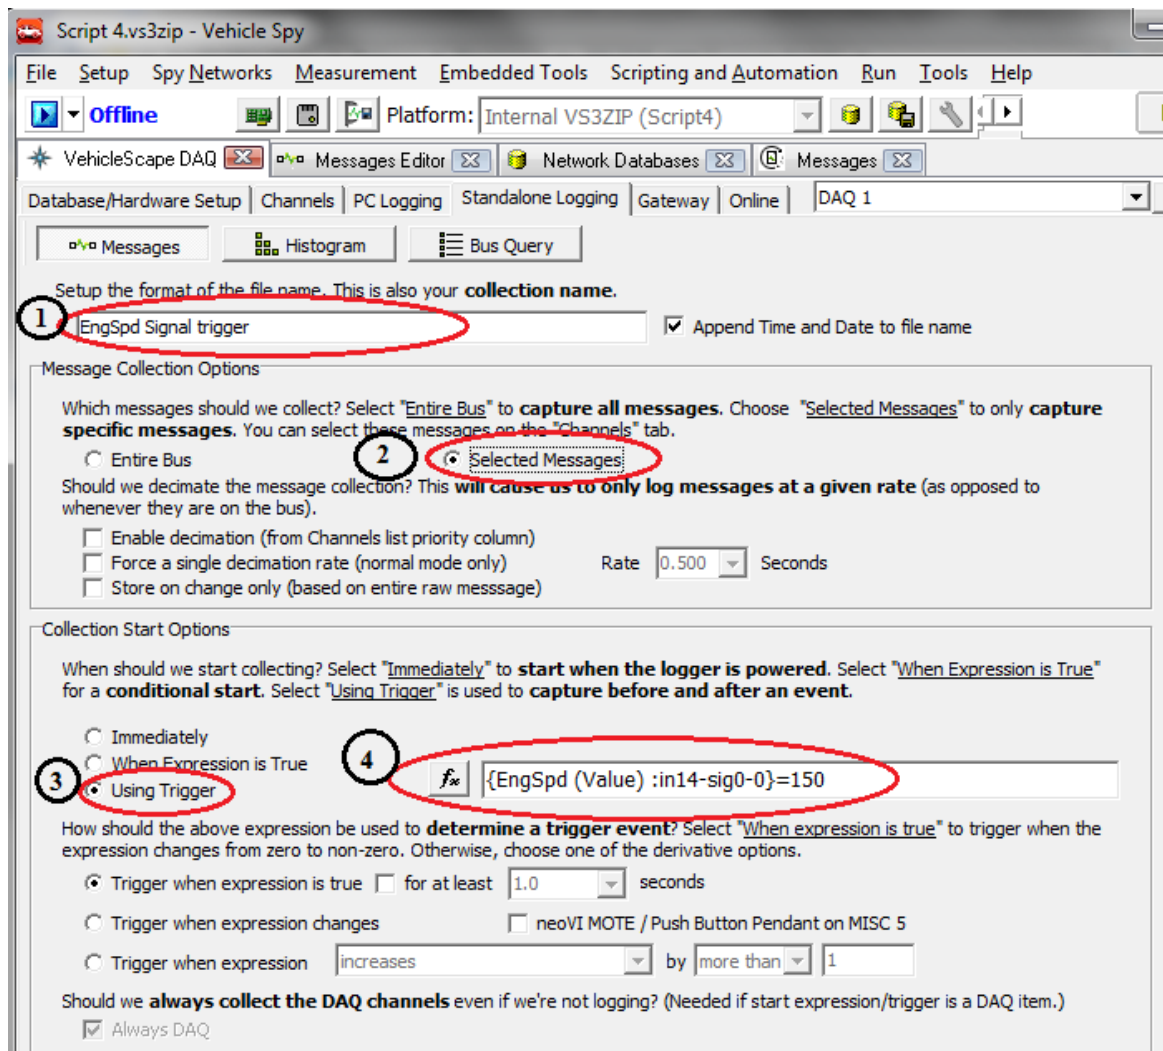

Figure 16.a Configuration for collection for data logging as on EngSpd signal value
- Collection name: Write a Collection name 'EngSpd signal Trigger' in collection name box (Figure 16.a (1)) (Default name will be Collection 1) and check the box on its side to append Date & Time to the file name. So it will create collection by selected name with date and time.
- Message collection option (Figure 16.a (2)): Select 'Selected channels' option. So it will log only that channels which is selected in channel tab.
- Select ‘Using Trigger Expression’ (Figure 16.a (3)): Click on  tab. It will open ‘Select start Expression’ window. (Figure 16.a (4))